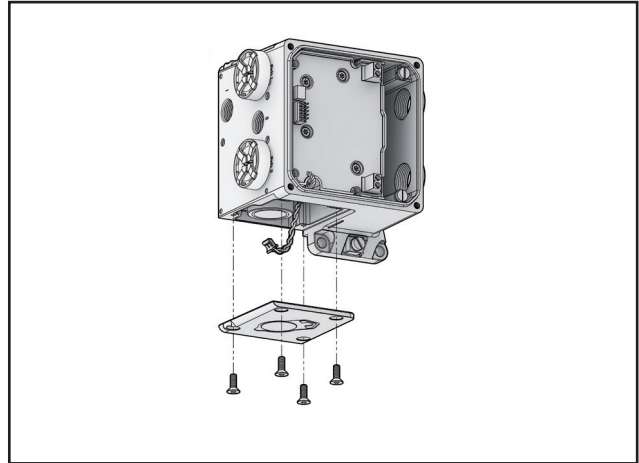
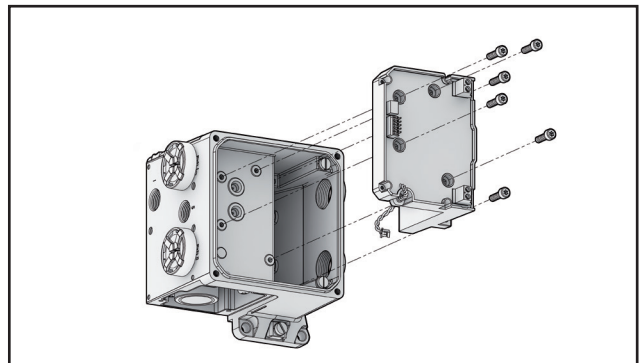

Fig. 94. NDX\_510\_
Fig. 95. NDX\_510\_
- Loosen the electronics module screws and grounding screws (NDX\_511\_ & NDX\_512\_), then remove the electronics module. (Fig 94, Fig 95)